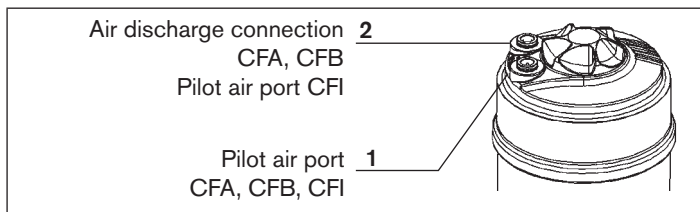

Fig. 19: Pneumatic connection
→ Connect the control medium to the pilot air port 1 of the actuator (see "Fig. 19: Pneumatic connection").
→ Plug the silencer into the free air discharge connection 2 (see "Fig. 19: Pneumatic connection").
- Connect the control medium to the pilot air port 1 and 2 of the actuator (see “Fig. 19: Pneumatic connection”)